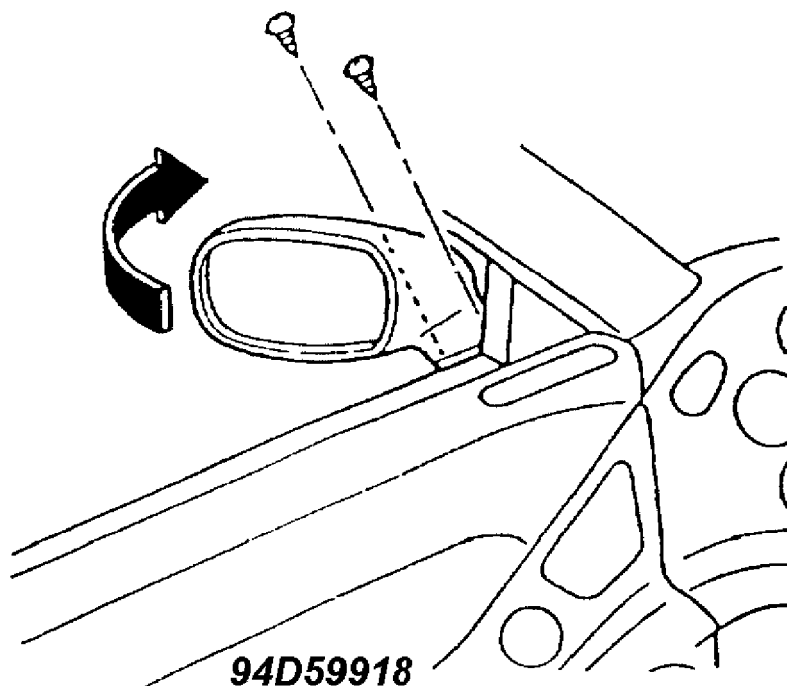

Fig. 1: Location of Mounting Screws
Twist the mirror downward to expose the two (2) mounting screws that attach the mirror to the body. See Fig. 1. Remove the mounting screws and apply loctite (blue type) to the threads and reinstall the screws very firmly to ensure the vibration has been eliminated.